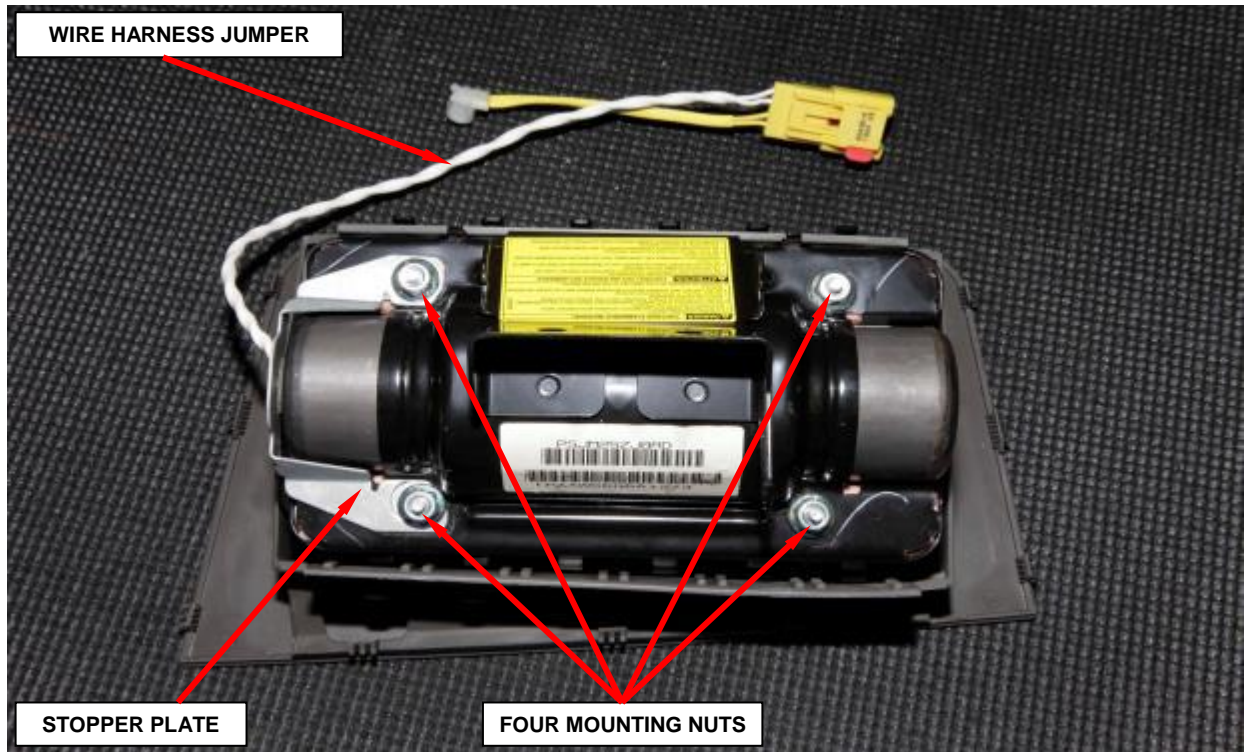

Figure 45 – Mounting Nuts and Stopper Plate
- e. Remove and **discard** the four mounting nuts and remove and save the stopper plate from the housing (Figure 45)
- h. Install the stopper plate to the passenger airbag module (Figure 45).
- i. Install the four new mounting nuts to the passenger airbag module and tighten to 53 in. lbs. (6 N·m) (Figure 45).